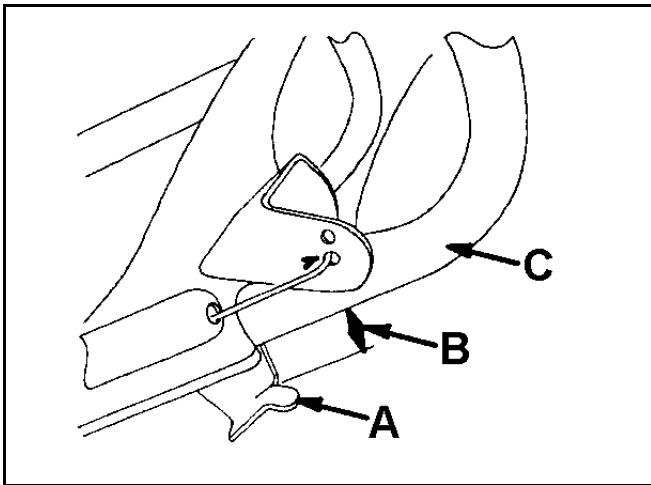
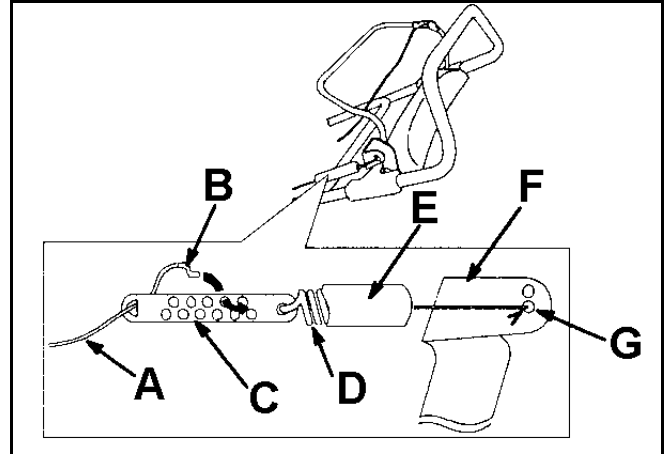

Figure 80
Figure 81
3. Ensure that a 1/8 to 1/4 inch (3 to 6mm) gap exists between the control bar bracket and the handle as shown in Figure 80.
1. Unhook the spring end from the hole in the center of the control bar bracket (G) as shown in Figure 81.
3. Unhook the Z-fitting from the cable adjuster (Figure 81), and position it in a different hole on the adjuster to obtain specified gap of 1/8 to 1/4 inch (3 to 6mm) between the control bar bracket and the handle (Figure 80).
5. Hook the spring into the hole in the center of the control bar bracket as shown in Figure 81.
NOTE: After extended use, the drive belt may wear and result in a loss of belt tension. Improper belt tension allows the belt to slip and decreases the performance under a heavy load. Belt slippage may occur after two or three seasons of normal usage (10 to 15 hours). If the drive belt slips (continuously squeals) under a heavy load, increase the belt tension by positioning the spring end in the other hole in the control bar bracket as shown in Figure 81. Adjust the gap between the control bar bracket and the handle to 1/8 to 1/4 in. (3 to 6mm).